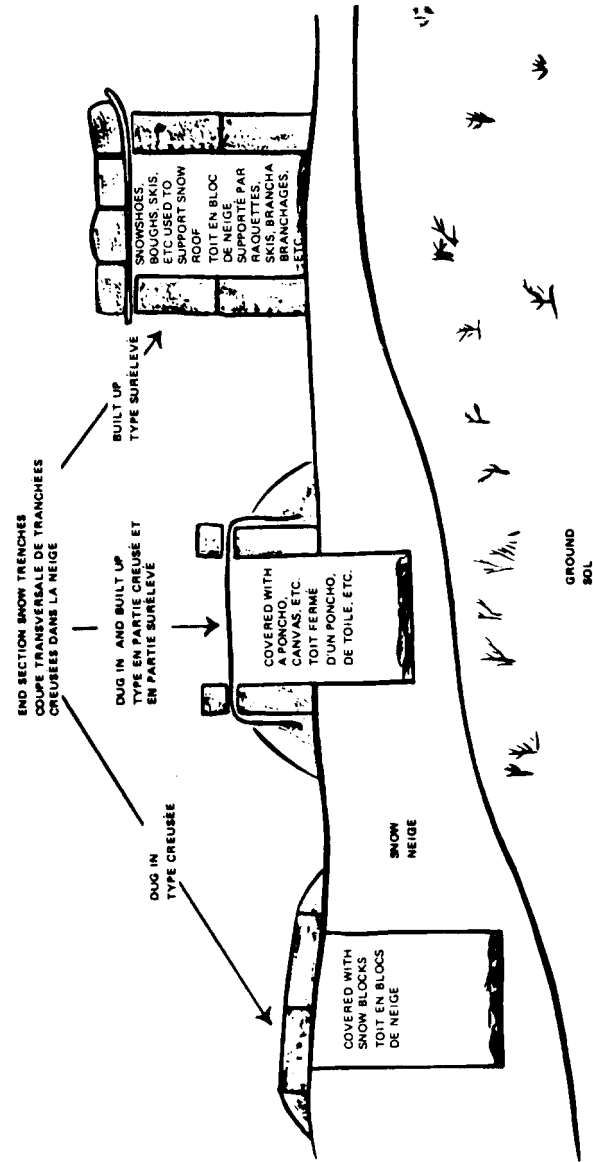

Figure 3-20 Snow Trenches
- e. If the snow is not deep enough you can always build a trench around you (see Figure 3-20).